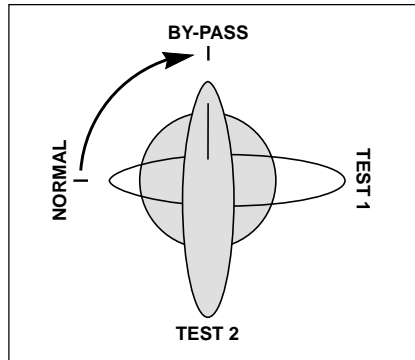

Fig. 24
- ▷ turn off the input power switch (1),
- ▷ switch the battery circuit breaker (4) to "off" position,
- ▷ turn the "manual bypass" switch (8) as indicated in figure 24 from the **"NORMAL"** position to the **"BYPASS"** position.